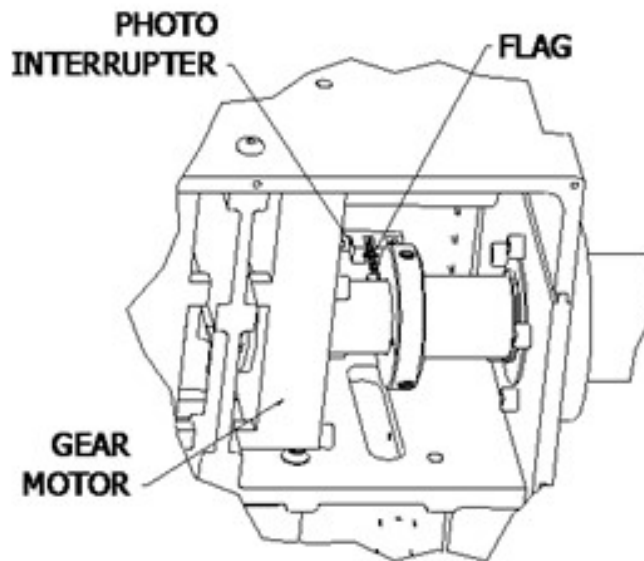

Figure 7-3 RCP Tilt Flag Example (RCP cover removed)
3. Remove the RCP cover to access the flags. The flags are attached to the timing rings on the horizontal and vertical shaft gears (Figure 7-3). Each timing ring has two set screws that must be loosened. It may be necessary to loosen one in each, then pan and tilt the unit to access the others. Note: The flags have sharp edges which may cause cuts.